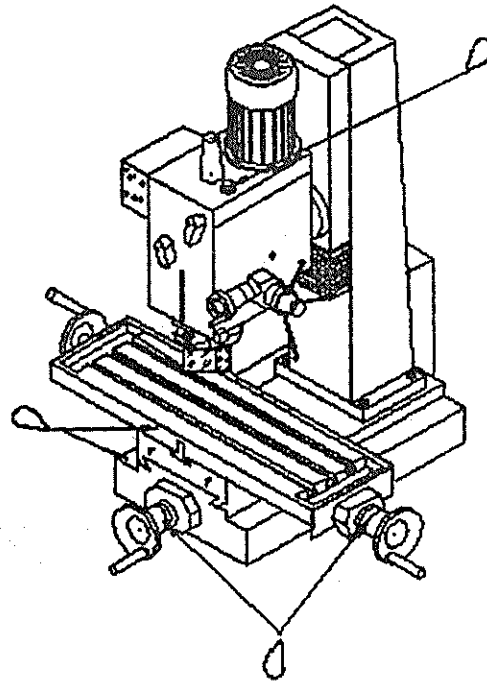

Fig.2
8 CLEANING AND LUBRICATING (see fig. 2)
(1) Your machine has been coated with heavy grease to protect it before shipping. This coating should be completely removed before operating the machine. Commercial degreaser, kerosene or similar solvent may be used to remove the grease from the machine, but avoid getting solvent on rubber parts.
(2) After cleaning, coat all bright work with a light lubricant. Lubricate all points in Fig.2 with medium consistency machine oil.
(3) Remove the oil filler plug fill the lubricant such as SAE 68 oil in level to the gear box until the oil level reach the middle of oil fluid level indicator. Then lock the plug.